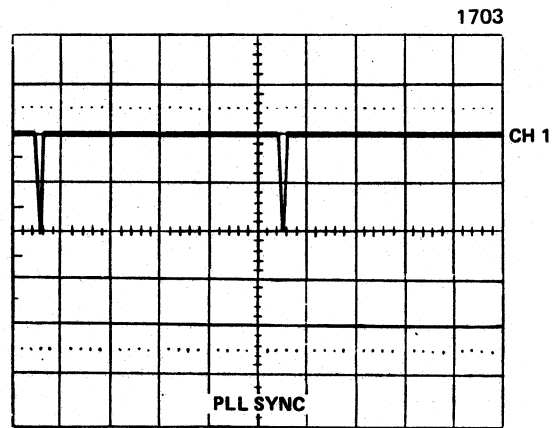

Figure 3-24. Phase Lock Display
- d. Slowly adjust potentiometer R11 until trailing edges of channels 1 and 2, observed on oscilloscope, are approximately phase locked as shown in Figure 3-24.